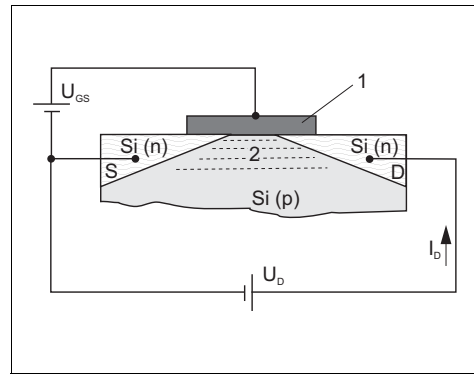
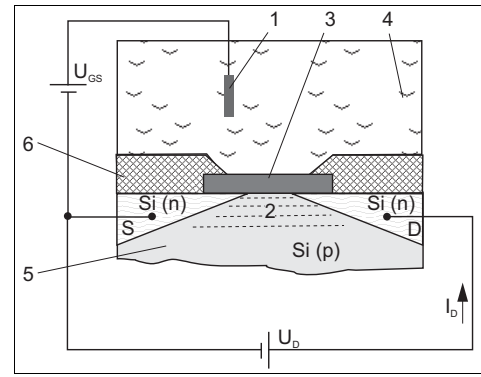

Fig. 1: Principle MOSFET
Fig. 2: Principle ISFET
Ion-selective field effect transistors use an MOS¹⁾ transistor arrangement (see Fig 1) where the metallic gate (pos. 1) is not a control electrode. Instead, the medium (see Fig 2, pos. 3) in the ISFET is in direct contact with the gate isolator layer (pos. 2). Two strongly N-conducting areas are diffused in P-conducting substrate (see Fig 2, pos. 5) of the semiconductor material (Si). These N-conducting areas are current supplying ("Source", S) and current accepting ("Drain", D) electrodes. The metallic gate electrode (in case of the MOSFET) resp. the medium (in case of the ISFET) forms a capacitor with the substrate below. A potential difference between gate and substrate (U_{GS}) causes a higher electron density between "Source" and "Drain". A N-conducting channel (pos. 2) is formed, i.e. a drain current (I_D) is induced.